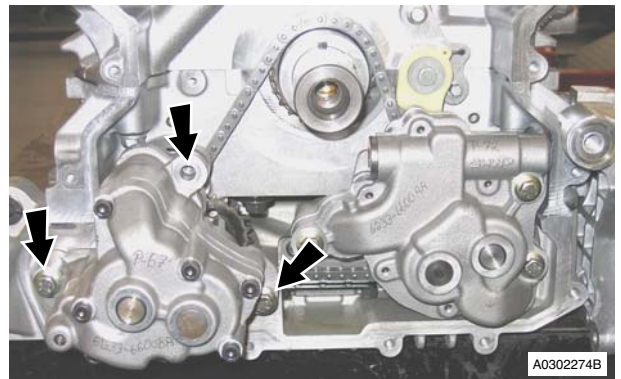

Figure 2
9. Remove bolts (x3) securing oil scavenge pump to sump (see Figure 2).